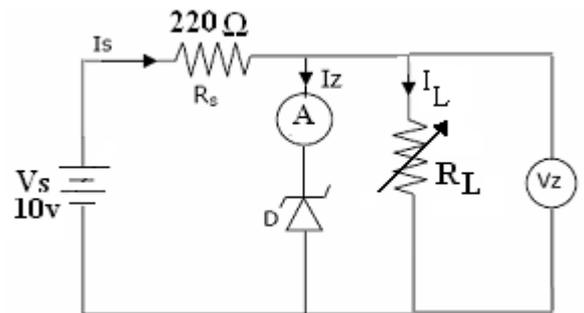

Figure 4
- 1- Set the DC power source (V_S) to 10.0V as shown in Figure 4.
- 5- Calculate the minimum value of the load resistance (R_{Lmin}) in Figure 4, for which below this value the Zener diode will no longer provide voltage regulation. Verify your calculation experimentally. (Assume $I_{Zmin} = 1 \text{ mA}$).
- 7- Calculate the value of the minimum series resistor (R_{S-min}) in Figure 4, at no load condition ($R_L = \infty$). (Assume $I_{Z(max)} = 25 \text{ mA}$).